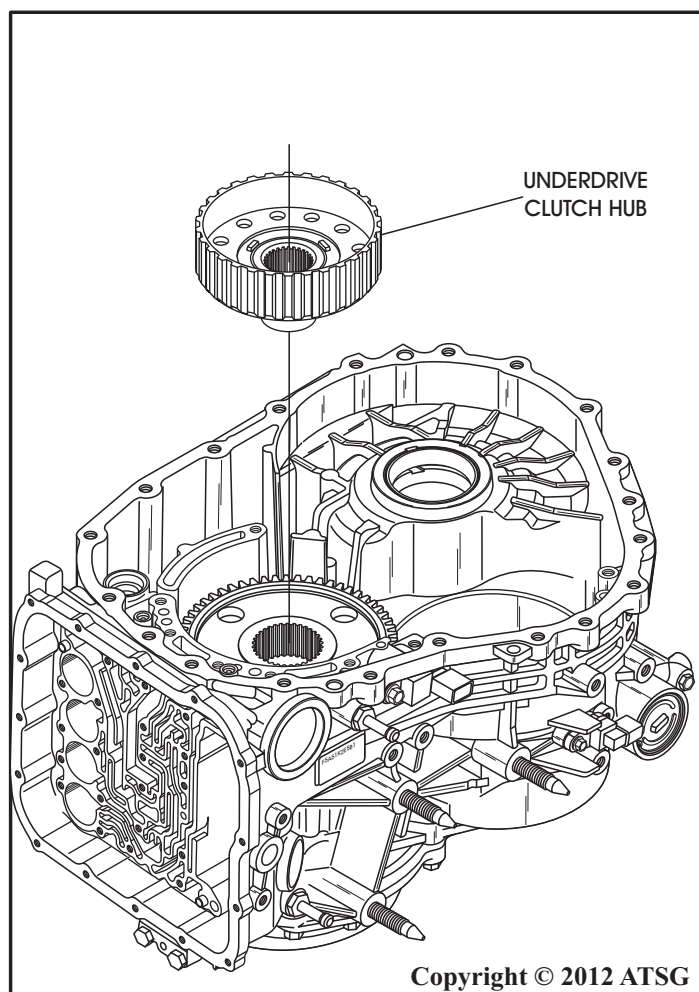

Figure 267
57. Now turn the transaxle over so the converter housing side is facing up, as shown in Figure 267.
58. Install the underdrive clutch hub, as shown in Figure 267.